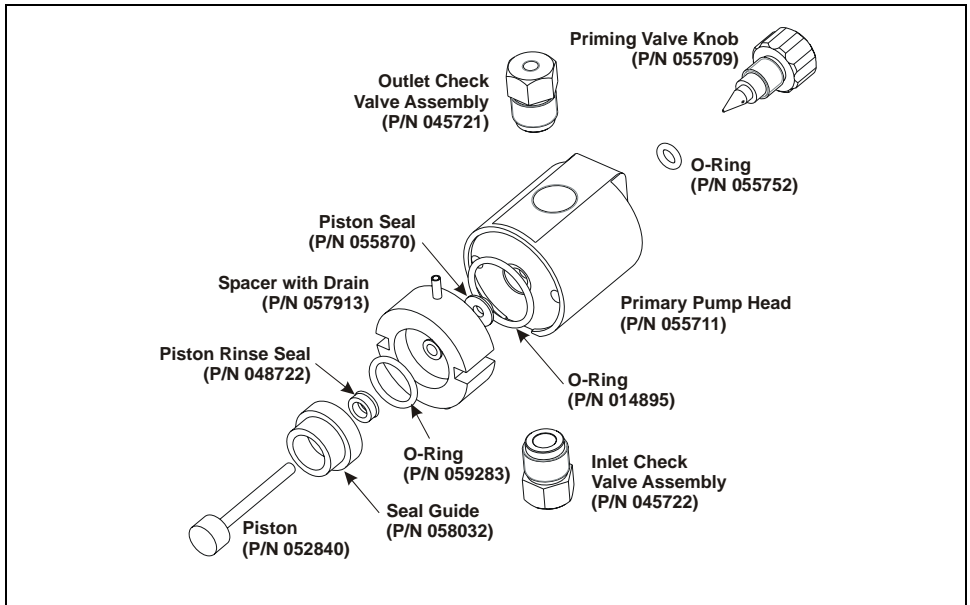

Figure 5-14. Primary Pump Head
5. Place the head (front end down) on a clean work surface and lift off the spacer to expose the piston seal (see Figure 5-14 or Figure 5-15).